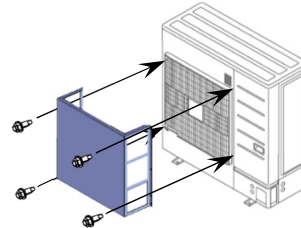

Figure 2
(2) Using the self-tapping screw provided, locate and secure the wind baffle as shown in Figure 2.